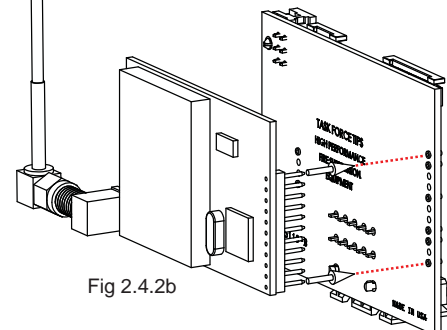

Fig 2.4.2b
- 3) Plug radio board into communication board. (Fig 2.4.2b) Be careful to line up pins.